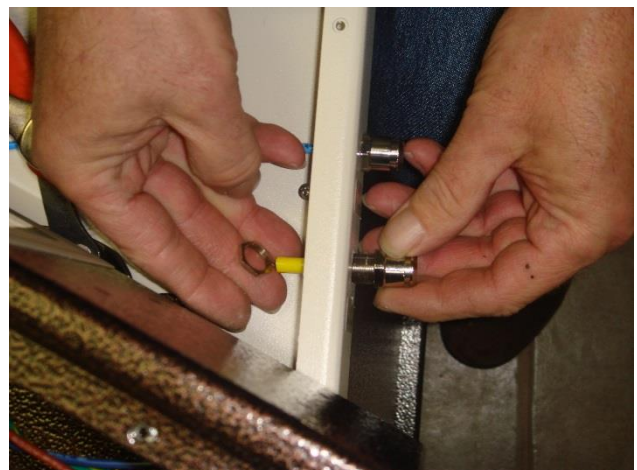

Fig. 14
21. Once the nut has been loosened, you can remove it by hand to pull out the air instrument quick connect. (Fig. 14)